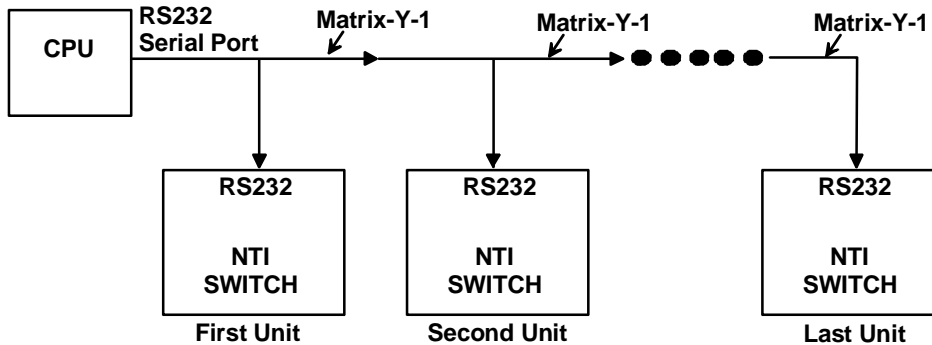
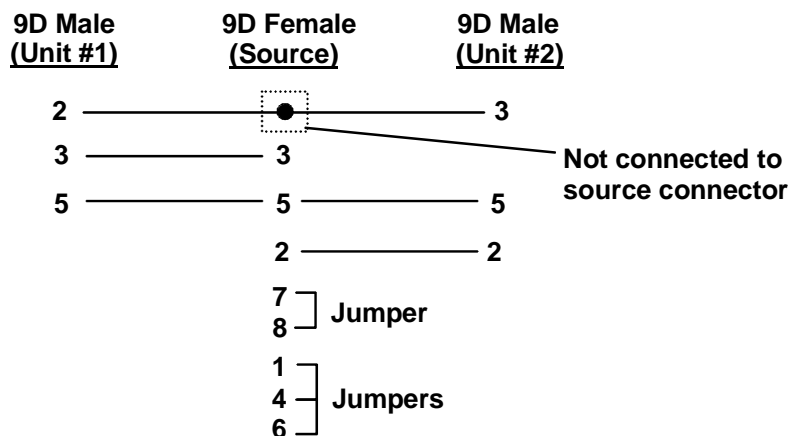

Figure 15- RS232 connection with Matrix-Y-1 cable
Figure 16- Pinout of Matrix-Y-1 cable
**Note:** In order to connect multiple KEEMUX units together a Matrix-Y-1 cable must be used. (See Fig. 15.) See Fig. 16 for the pinout of the Matrix-Y-1 cable. The Matrix-Y-1 cable is available from Network Technologies Inc.